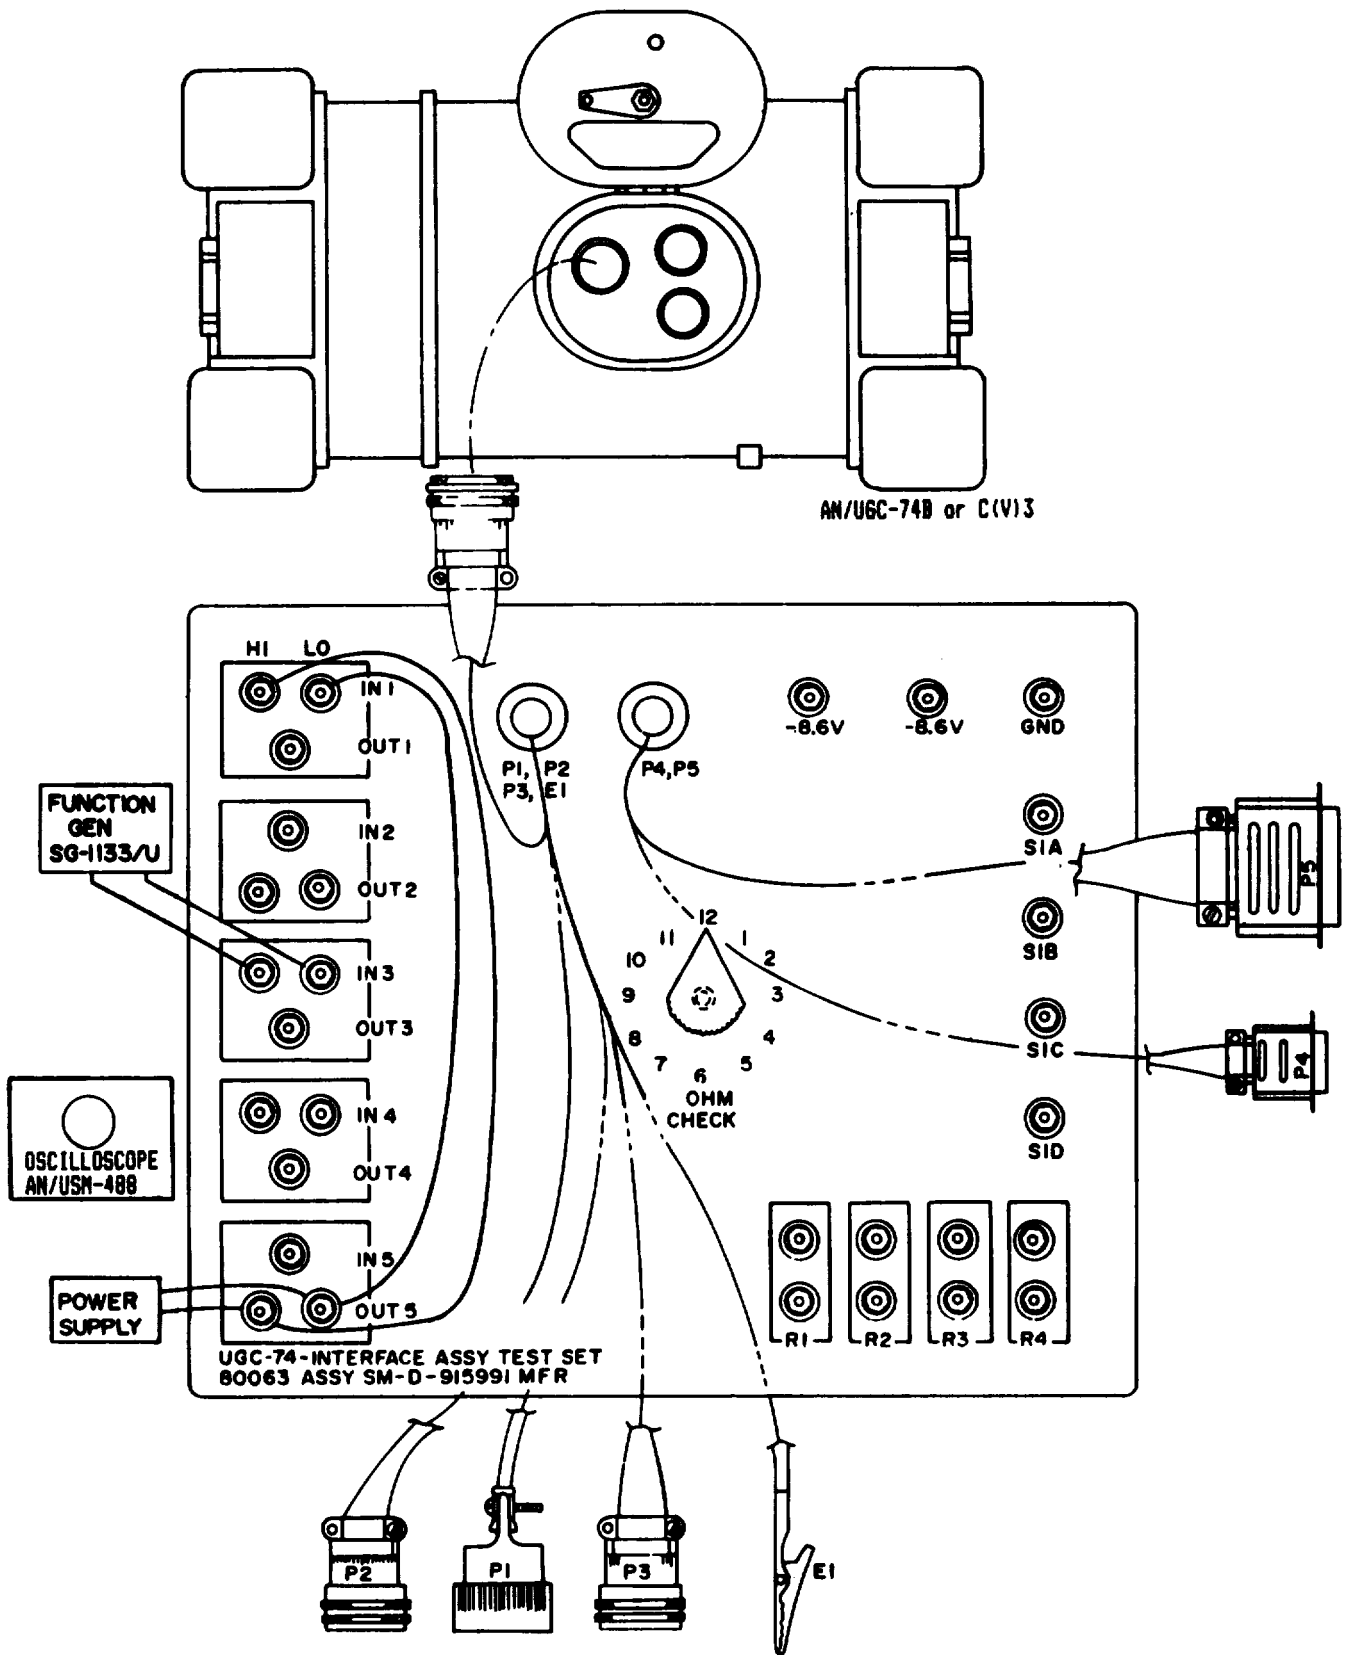

Figure 6-23. EQUIPMENT SETUP FOR 26 VOLT SUPPLY TEST
14. Connect OUT 5 HI and OUT 5 LO to IN 1 HI (REC DATA HI) and IN 1 LO (REC DATA LO). (See figure 6-23 for test setup).